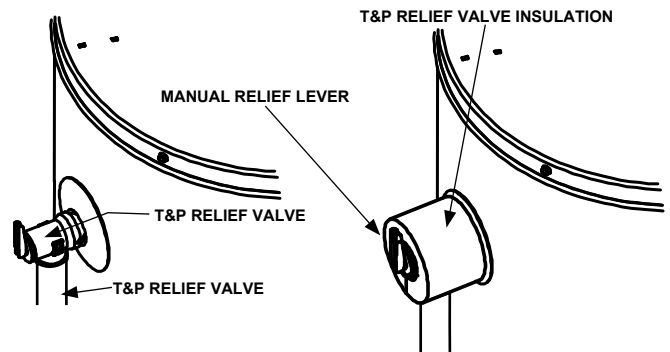

FIGURE 19.
3. Spread the slit open and fit the insulation over the T&P relief valve. See Figure 19. Apply gentle pressure to the insulation to ensure that it is fully seated on the T&P Relief Valve. Once seated, secure the insulation with duct tape. **IMPORTANT:** The insulation or tape should not block or cover the T&P relief valve drain opening. Also, the insulation or tape should not block or hinder access to the manual relief lever (Figure 19).